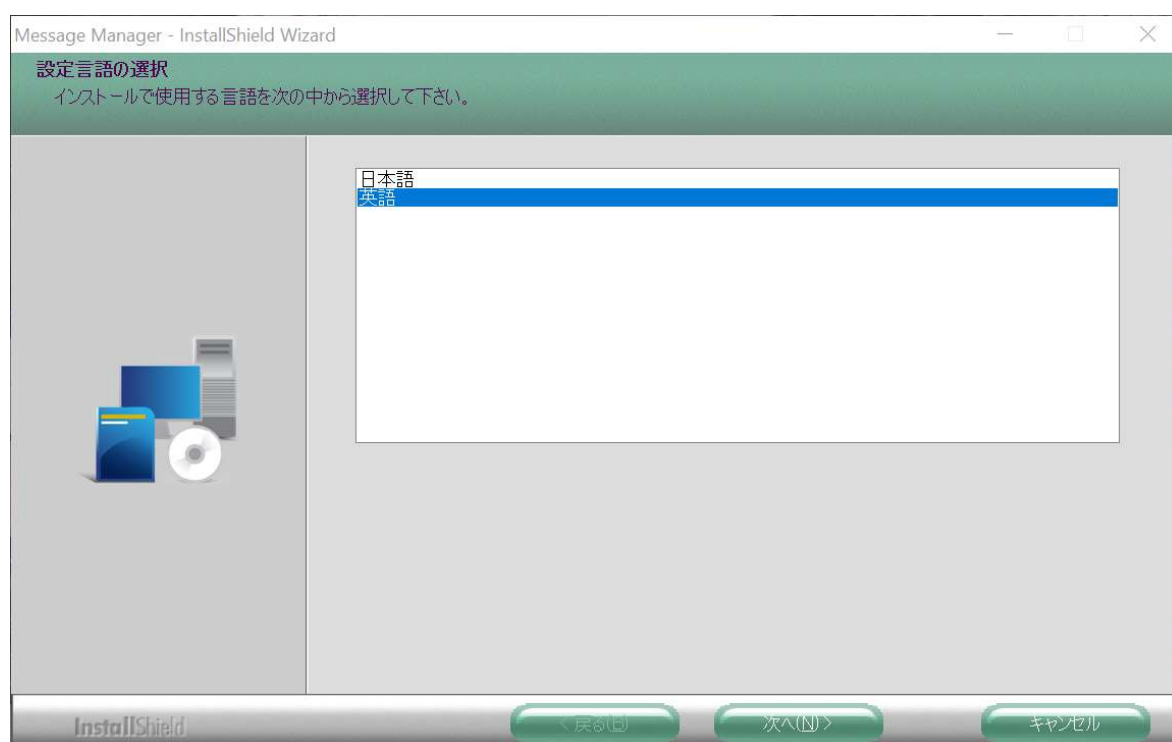

Figure 2.2. Message Manager installer - language selection.
The Message Manager can be installed in the same procedure than Loader software. If not, it can be installed separately with its own file. The first screen of the installer asks for the language, showing Japanese by default; select the second option in order to change to English (blue option in figure 2.2). Clicking on (N) "Next" you will be moved to the following steps.